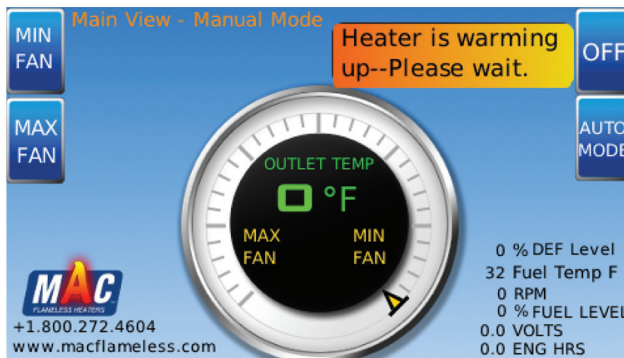

Figure 3-4. Heater Warming
5. When the coolant temperature reaches 100°F (38°C), engine warming is complete and the heater automatically begins warming up. The screen displays "Heater is warming up--Please wait" (**Figure 3-4**).